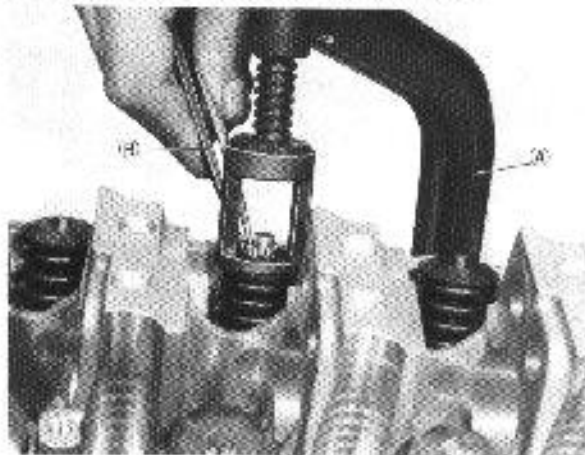

Fig. 3-122 (B) Forceps (09916-84510)
To fit valve cotters to the groove provided on the end portion of each valve stem, be sure to use the valve lifter ① (09916-14510): compress the valve spring with this lifter and mount the cotter pieces, as shown in Fig. 3-122.